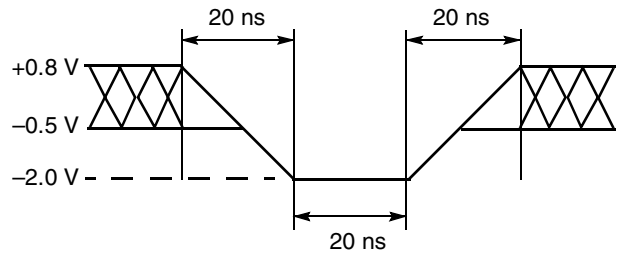
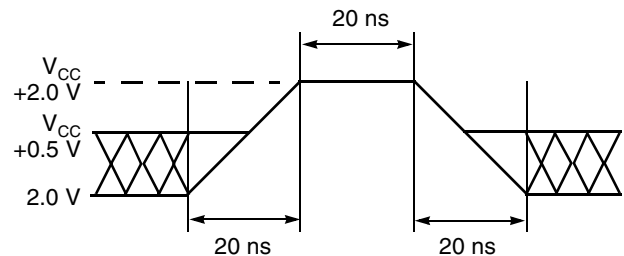

Figure 10. Maximum Negative Overshoot Waveform
Figure 11. Maximum Positive Overshoot Waveform
1. Minimum DC voltage on input or I/O pins is -0.5 V. During voltage transitions, input or I/O pins may overshoot V_{SS} to -2.0 V for periods of up to 20 ns. Maximum DC voltage on input or I/O pins is $V_{CC} + 0.5$ V. See Figure 10. During voltage transitions, input or I/O pins may overshoot to $V_{CC} + 2.0$ V for periods up to 20 ns. See Figure 11.
2. Minimum DC input voltage on pins A9, OE#, ACC, and RESET# is -0.5 V. During voltage transitions, A9, OE#, WP#/ACC, and RESET# may overshoot V_{SS} to -2.0 V for periods of up to 20 ns. See Figure 10. Maximum DC input voltage on pin A9, OE#, WP#/ACC, and RESET# is +12.5 V which may overshoot to +14.0 V for periods up to 20 ns.